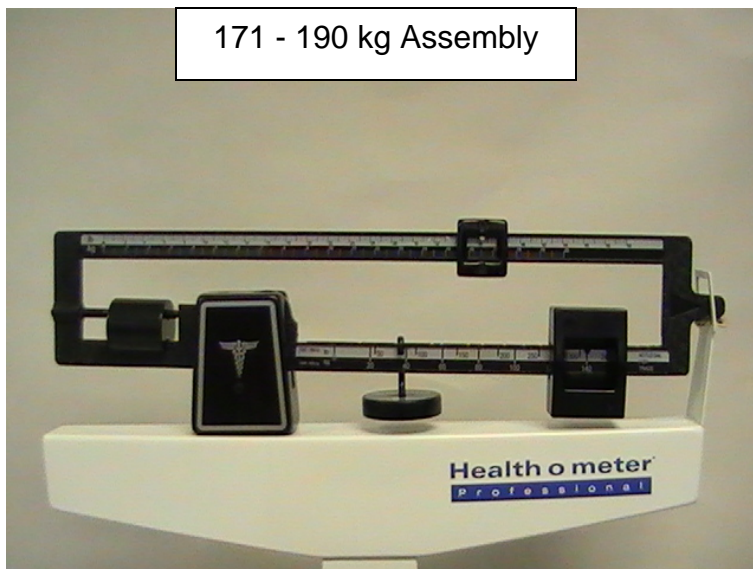

Figure 19
1. When a patient weighs between 171 - 190 kg, place the lower poise weight at 140 kg. (See Figure 19 on page 20)